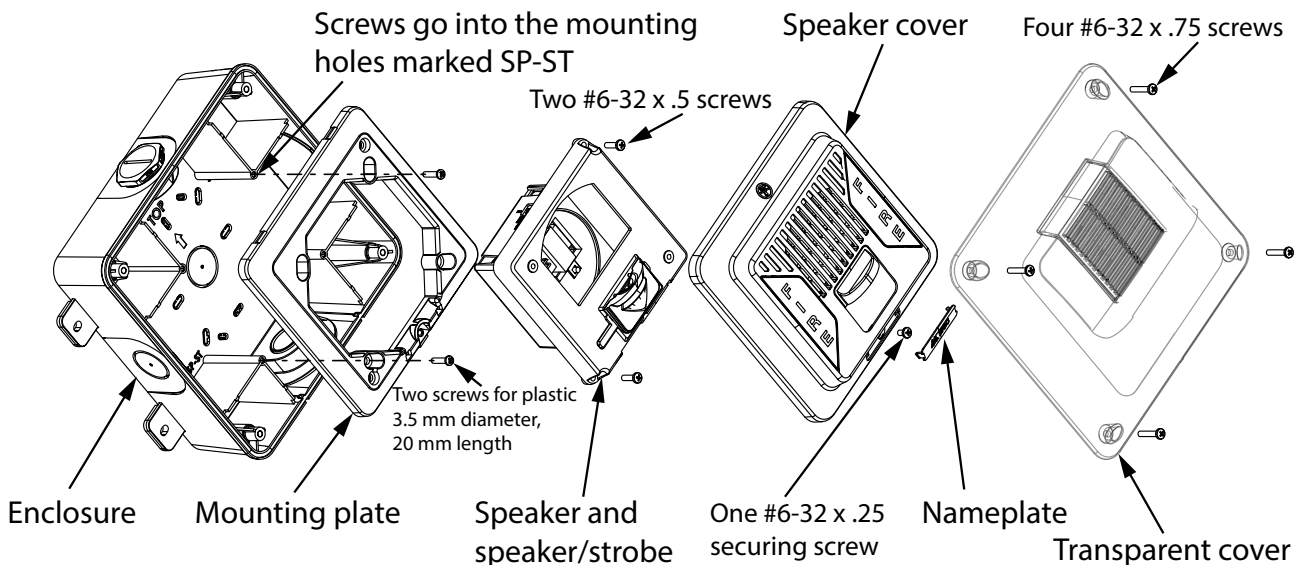

Figure 8 Mount the speaker and speaker/strobe in enclosure
1. Before mounting, disassemble the unit as shown in figure 8.